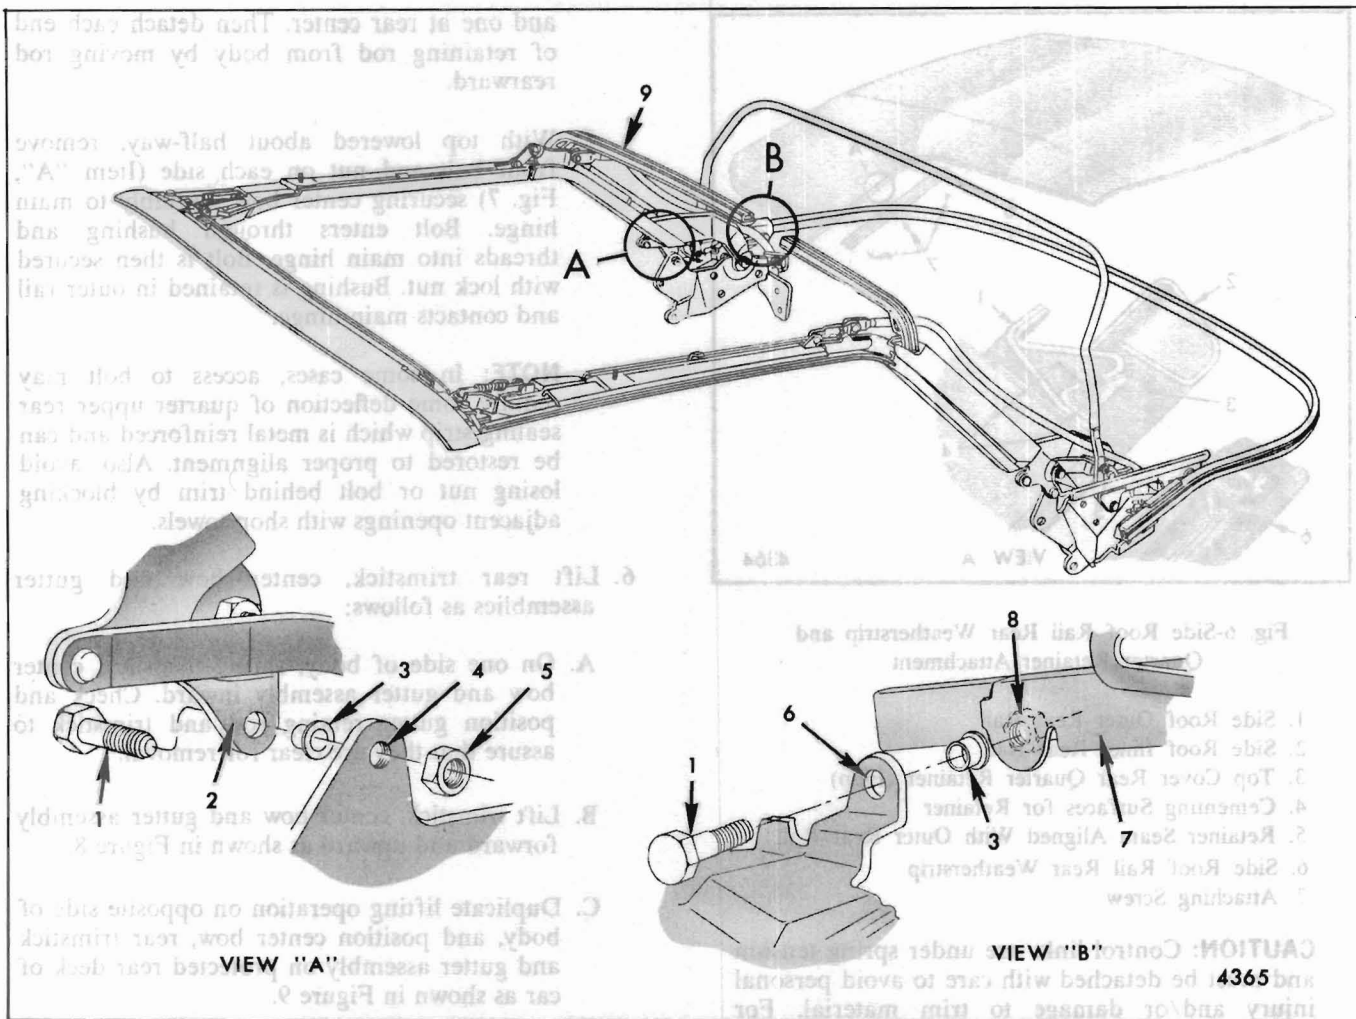
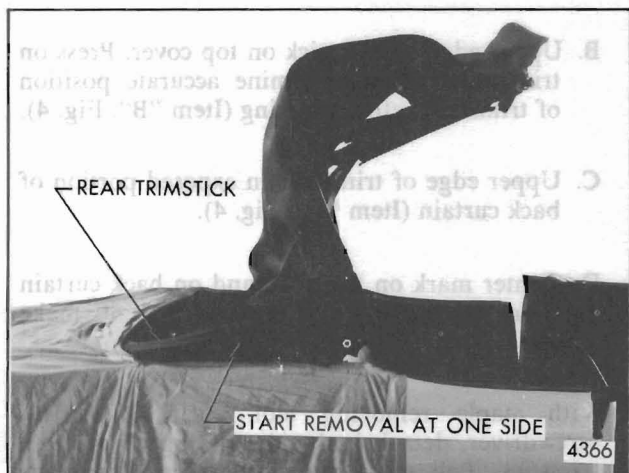

Fig. 7-Center Bow Assembly and Rear Trimstick Attachment
Fig. 8-Lifting Rear Trimstick From Body
- A. On rear deck section of car, particularly area adjacent to quarter belt finishing moldings, apply heavy padded cover to protect moldings and paint finish. Mask securely in place (Fig. 8).
- A. With front roof rail several inches above windshield header, remove lower rear bolt (Item "B", Fig. 7) securing trimstick to main hinge on each side. Bolt is removable toward inside of body. Welded anchor nut remains on trimstick.
- C. With top lowered about half-way, remove front bolt and nut on each side (Item "A", Fig. 7) securing center bow assembly to main hinge. Bolt enters through bushing and threads into main hinge. Bolt is then secured with lock nut. Bushing is retained in outer rail and contacts main hinge.
- B. Lift trimstick, center bow and gutter assembly forward and upward as shown in Figure 8.
11. Position rear trimstick, center bow and gutter assembly into body in reverse order of removal. With top half-lowered, start one end of trimstick and gutter into body as shown in Figure 8, then position opposite end into body.
- B. Raise top several inches above windshield header. Install bushing in main hinge, align trimstick to main hinge attaching holes and install trimstick attaching bolts (View "B", Fig. 7). Use care to avoid dropping bolt. To avoid losing bolt, block openings at wheel-house with several shop towels.
- C. Lower top half-way as shown in Figure 8. With bushing properly positioned in each outer rail, install attaching bolts (View "A", Fig. 7) securing outer rail to main hinge. Each bolt threads into hinge and is secured with lock nut.
- B. Lift trimstick, center bow and gutter assembly upward and forward as shown in Figure 8.